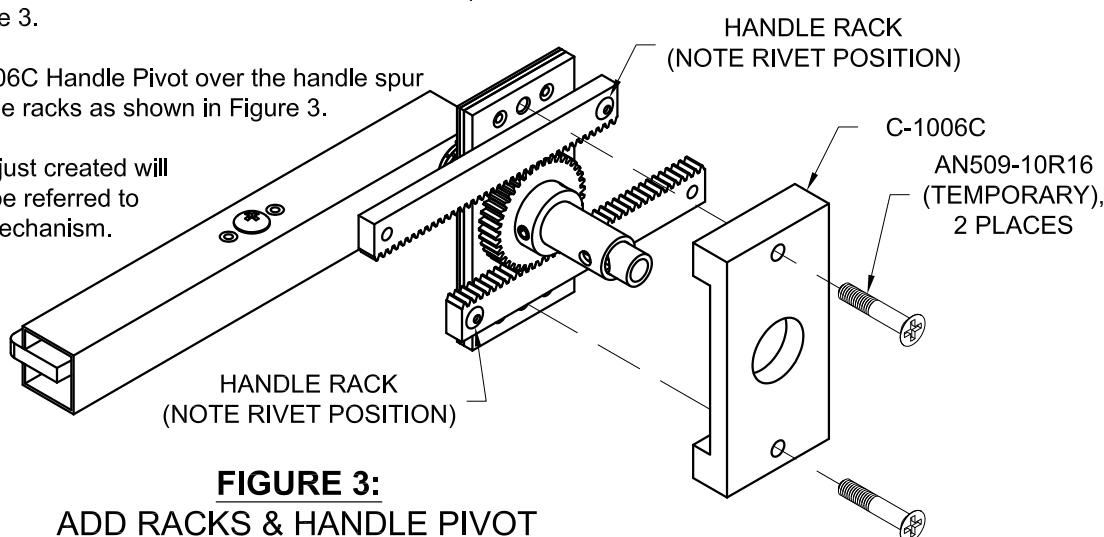

FIGURE 3:
Step 3: Place two Handle Racks on the C-1014 Handle Spur Gear as shown in Figure 3.
Slide the C-1006C Handle Pivot over the handle spur gear and handle racks as shown in Figure 3.